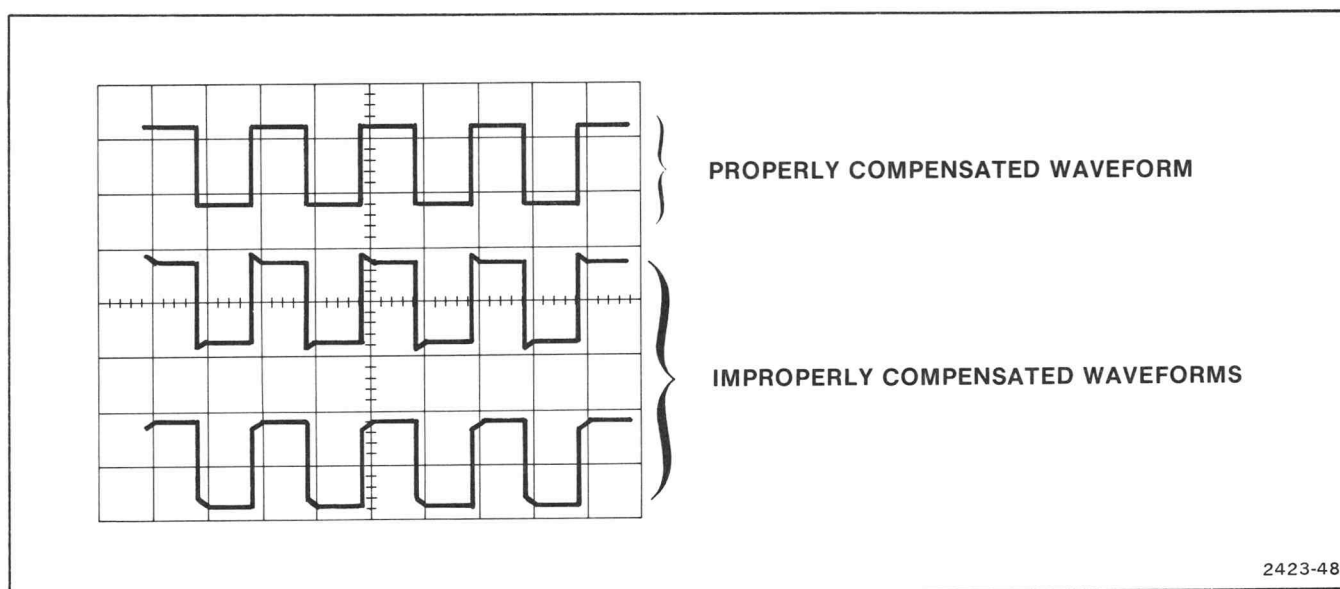

Fig. 2-10. Probe compensation.
4. Adjust the probe compensation for a flat-top waveform as shown in Fig. 2-10. Refer to the probe data sheet, supplied in the probe accessories package, for the adjustment procedure.